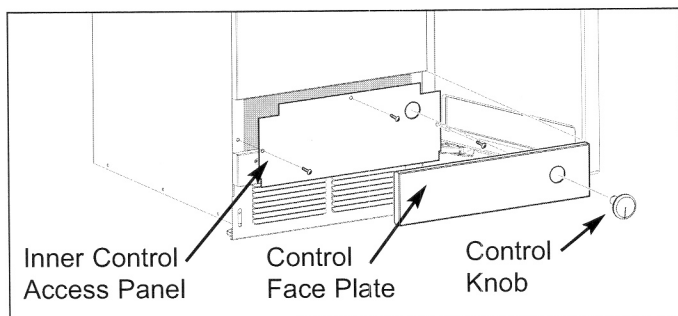

Figure 4-12.
- 1) Open the door and remove the control knob, the control face plate and the inner control access panel. (See Figure 4-12)